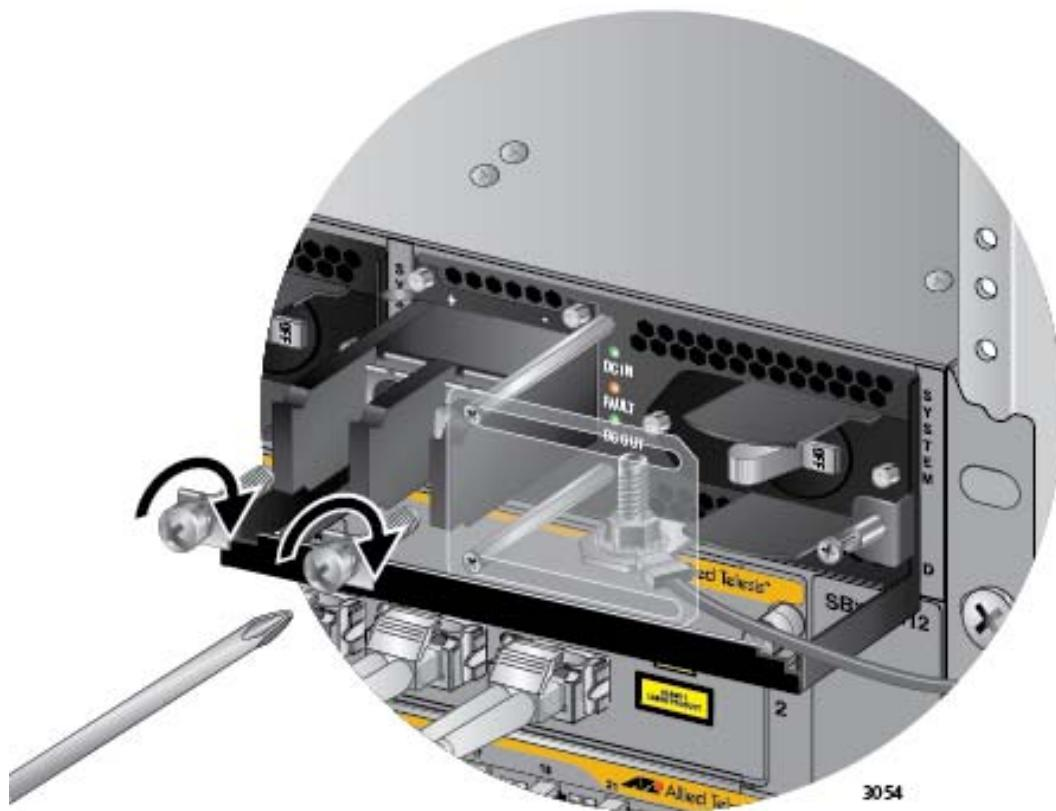

Figure 142. Reinstalling the Screws on the Positive and Negative Terminals
7. Reinstall the two screws on the negative (-) and positive (+) terminals. Refer to Figure 142 on page 213.